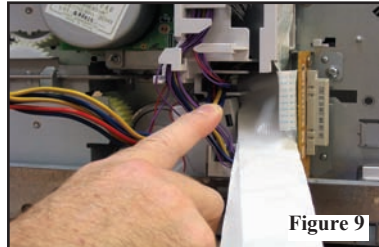
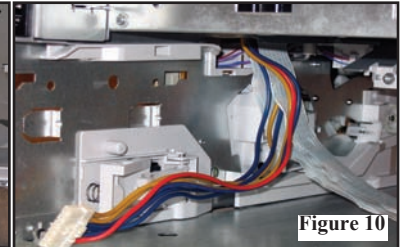

Figure 9 - Slide the cables through the hole in the side of the printer.
Figure 10 - Pull the cables so they hang loose in the inside of the printer (right, three of the five cables shown).
6. The DC controller has several cables attached to it, but you will only be removing the two ribbon cables and the three plugs with multi-colored cables (Figure 8, red boxes). Slide these cables through the hole in the side of the printer (Figure 9) and pull them from the other side so they hang loose in the inside of the printer (Figure 10).